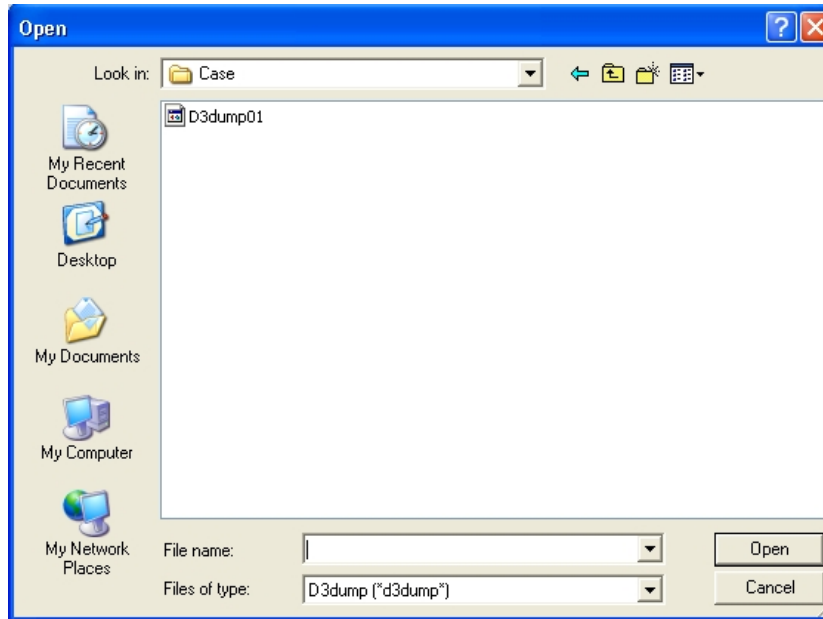

Figure 3.9.1 Select DYNA Restart File window
1. eta/DYNAFORM prompts the user to select the restart file from the Select DYNA Restart file window as shown in Figure 3.9.1.